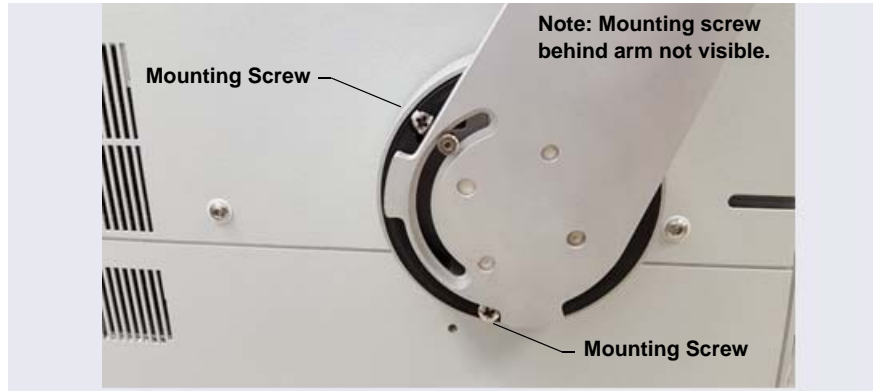

Figure 3-30. Tightening the Tablet Arm Mounting Screws
- c. Use a 3 mm socket driver to tighten the screws from the front of the mounting arm (see Figure 3-30). You will need to move the arm to access all three screws.